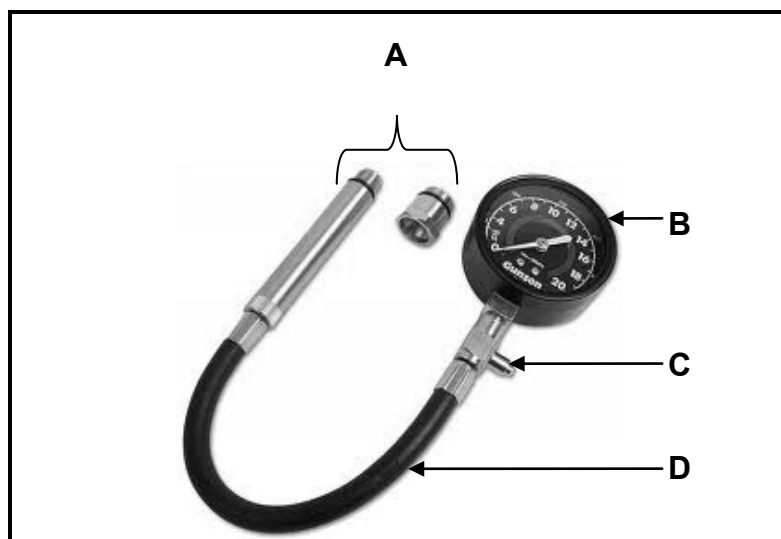

FIGURE 3.1
- 3.4 FIGURE 3.1 below shows a compression tester that is used to check the compression of a cylinder. Label parts **A–D**.